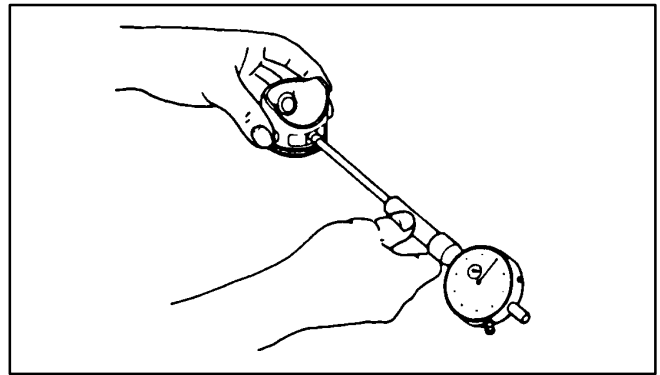

FIGURE 10-26. PISTON BOSS I.D.
1. Measure the piston boss ID in both the vertical and horizontal direction (Figure 10-26).